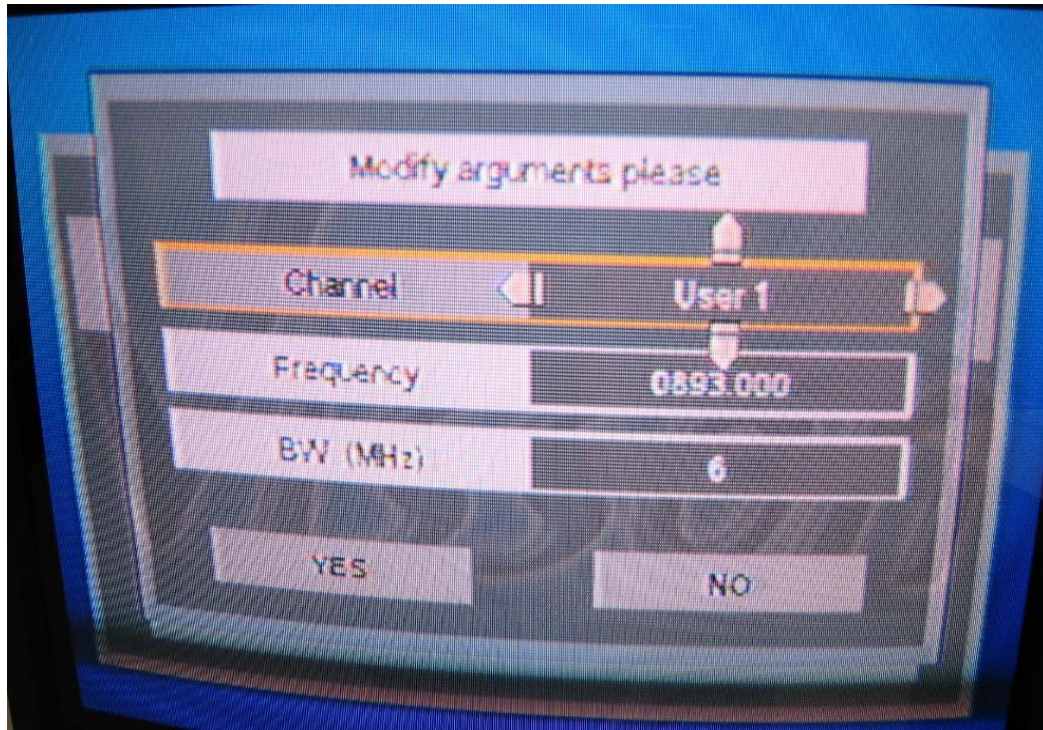

Figure 10
“OK” button to select “Specific search” (See Figure 7). After the “OK” button is pressed, the screen as in Figure 10 will be displayed.
3. Use the “down” arrow key to highlight the “Frequency” field. Press the “OK” button. Use the keypad to enter the desired IF frequency (see Figure 10).
Use the down arrow key to highlight the “Yes” or “No” field. Press “No” to exit back to the “Search channel” menu. Press “Yes” to enter the new frequency/bandwidth. The entry is stored as a unique user channel. To enter additional channels, go back to step 2 and repeat the process. Each time a user channel is entered, the last character in the user field will be incremented by one (i.e User 1, User 2, User 3 ,etc. Ref Figure 10). Press “Exit” when done.